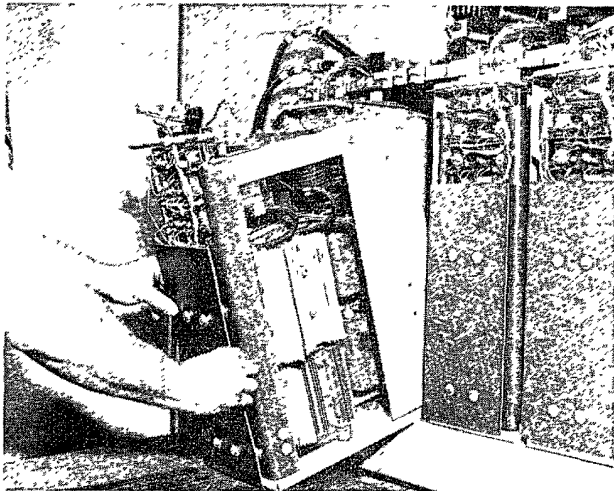

FIGURE 11
9. Pull the module out of the rack onto the table using the red insulation cover in front of the module. (See Figure 11).
8. Pull the module out of the rack onto the table using the red insulation cover in front of the module. See Figure 11.